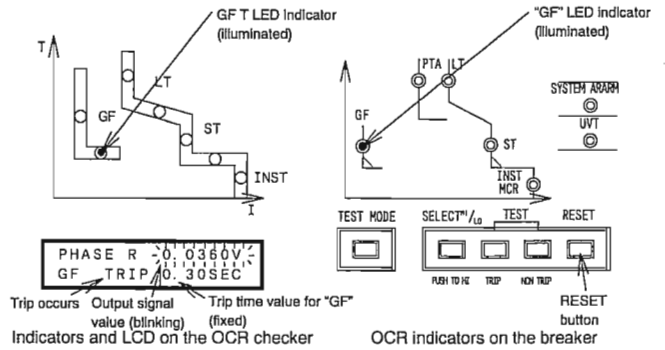

Fig. 25 Indications appearing when ground fault trip occurs
- (7) When the output is turned ON, indications appear as illustrated in Fig. 25 after the given time has elapsed. When the “GF” LED indicator in Fig. 25 is illuminated, this indicates that the OCR has tripped. If the breaker operation is tested together, the breaker turns OFF. At this time, the OCR checker automatically turns OFF the output signal and displays the trip time value for “GF”.
- (8) If the trip time value for “GF” indicated by the OCR checker falls within the range defined by (scale value for  $t_b$ )0.07/0.05 [sec], the trip time setting value for “GF” is normal.
- (9) Press the RESET button (see Fig. 25) located on the controls section of the OCR. The “GF” LED indicator will turn OFF. Also press any of the switches located on the OCR checker. The trip indication on the OCR checker will turn OFF. At this time, the output signal value set in step (4) will appear.
- (10) To perform the test for a different test phase, repeat the steps starting with step (2).
- (11) After the test, put the setting values on the OCR, which have been changed in step (1), back to the previous ones.